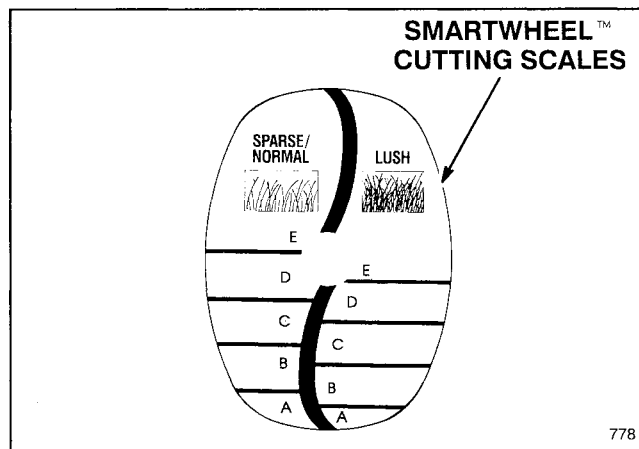

Figure 10
1. Before starting the engine and beginning to mow, push the mower into the grass. Stop when the words SPARSE/NORMAL and LUSH are upright on the SmartWheel design on the rear left wheel (Fig. 10).
2. Using the color coded SmartWheel design (Fig. 10), compare the tips of the grass blades to the colors/letters on the wheel. Whichever color/letter the tips of the grass blades correspond with is the proper cutting height.